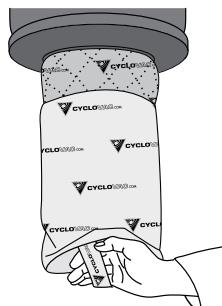

figure 14
2. Then, use the straps at the base of the filters to withdraw (**figure 14**) We recommend cleaning the anti-clogging filter (thin fabric) every time the dust receptacle is emptied. You may either shake it out, or wash it. The Cyclofiltre (thick fabric) should be cleaned after four anticlogging filter cleanings, or approximately once a year.